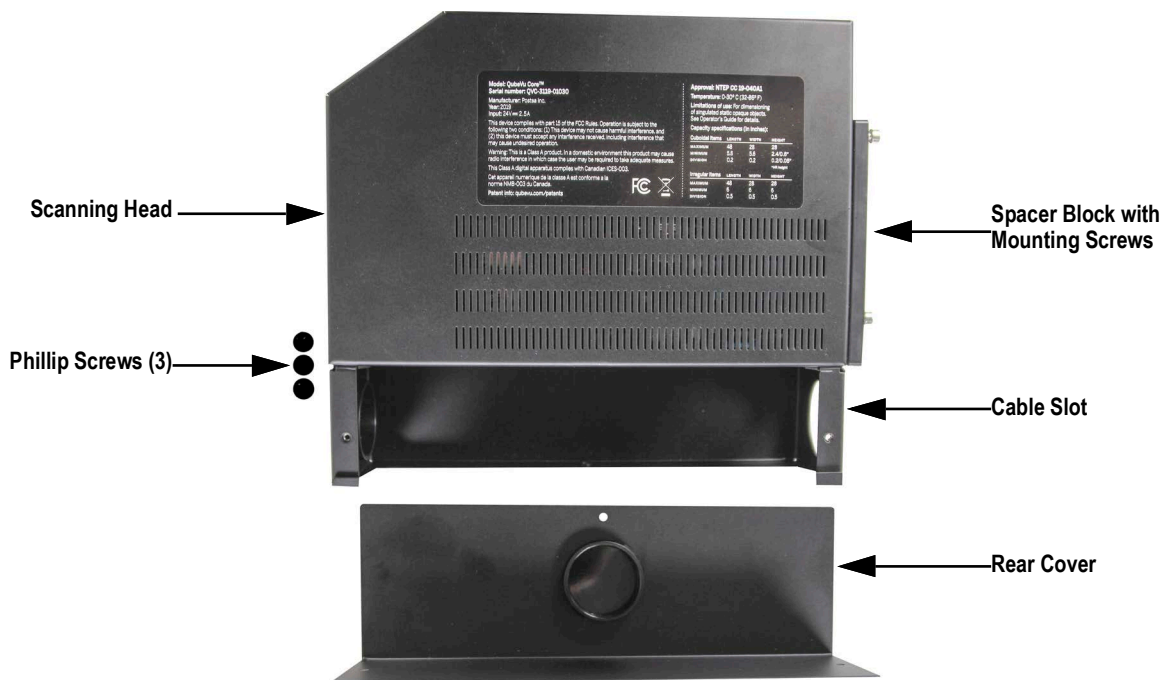

Figure 3-1. Scanning Head Parts
2. Remove the rear cover from the scanning head by loosening and removing the three Phillips screws (screw locations are shown in Figure 3-6 on page 11. Screws are located to the left of the scanning head within of Figure 3-1). See Step 6 on page 11 for instructions on how to reinstall the Phillips screws.